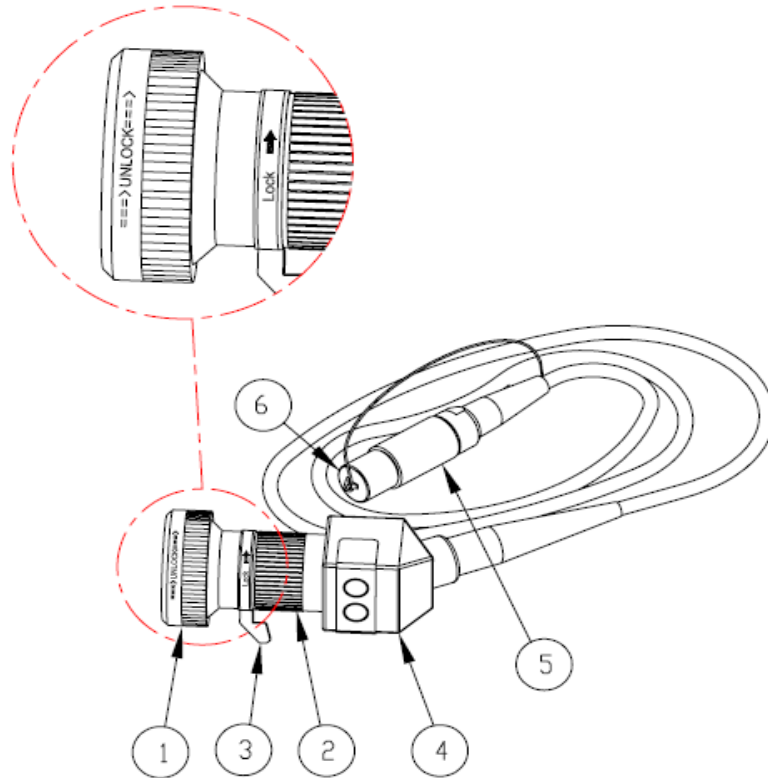

Figure 3-1: DCH-5000 Digital Add-On Camera
The three major components of the camera unit (shown in Figure 3-1 on page 8) are:
1. When using a flexible endoscope, release the free-spin lock on the Lens (refer to Figure 3-1) and rotate the endoscope until the arrow in the view field points to twelve o'clock. Then return the free-spin lock to its locked position.